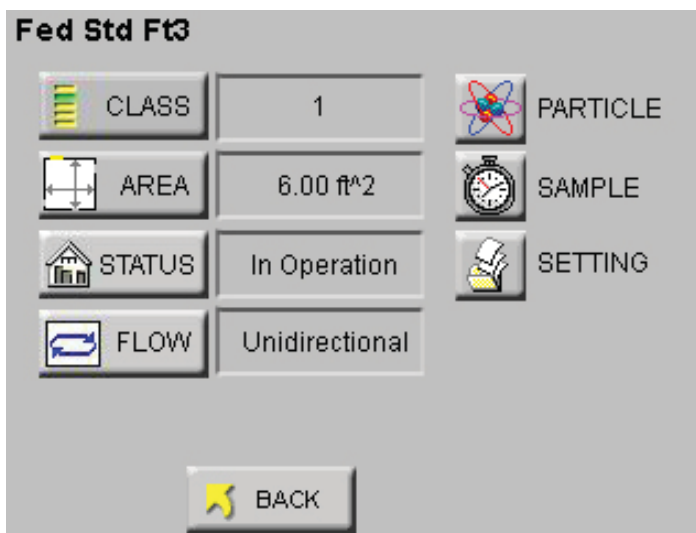

Figure 6-94 Reports Setup Screen No Locations
- When "REPORTS" are enabled, the "LOC" and "SAVE" buttons are displayed only when there are at least the minimum number of locations needed for the recipe area available. See Figure 6-94.